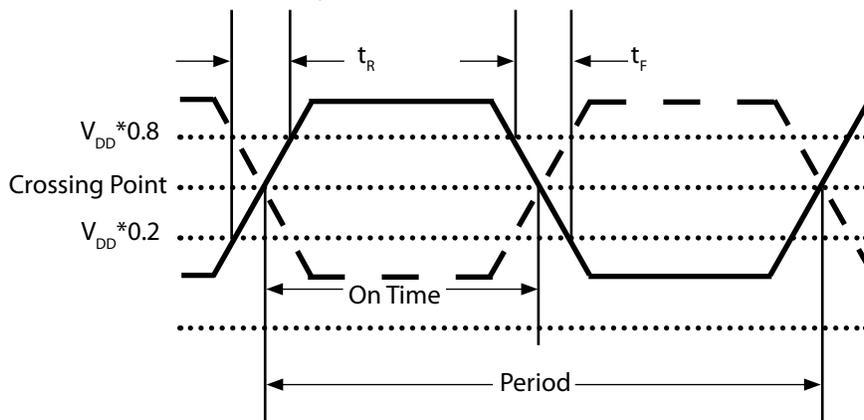

Figure 1.
3. Figure 1 defines these parameters.
4. Duty Cycle is defined as the On Time/Period, see Figure 1.
4. Duty Cycle is defined as the On Time/Period, see Figure1.